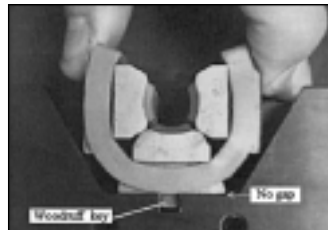

Fig. 5 – Crimp head completely closed.
7. Place the assembly into the crimper and hold it against the locator flag. Only the ferrule should touch the flag. Operate the screw (Item 1\*) to close the dies to the full closed position. This will provide the proper compression to achieve a leak free crimp. When the crimp dies are bottomed out, there will be a slight gap between the two die holders (Items 5\* & 17\*). This ensures that the dies are fully closed before the holders bottom out (Refer to Fig. 5).